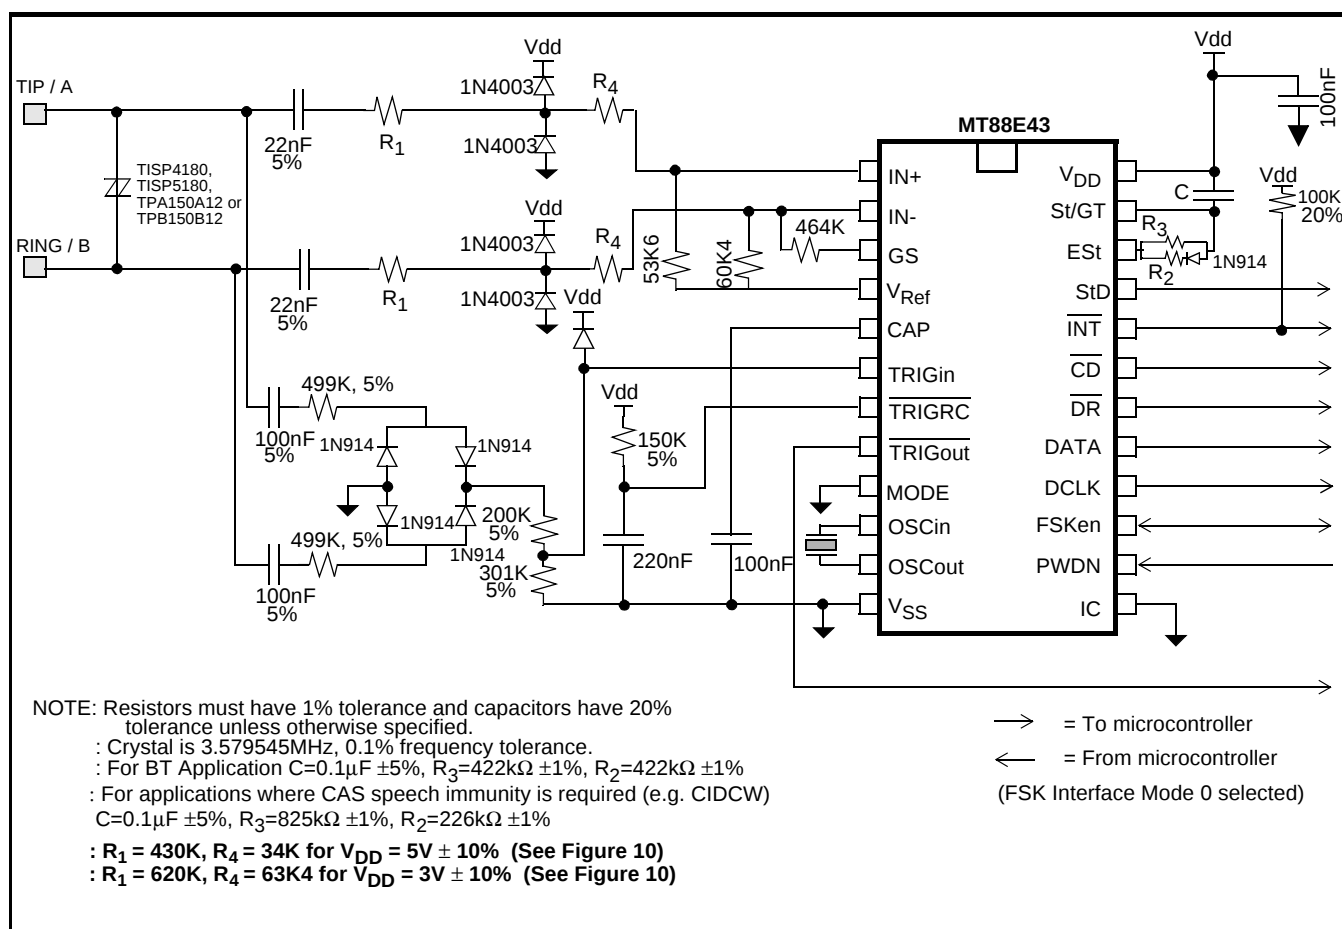
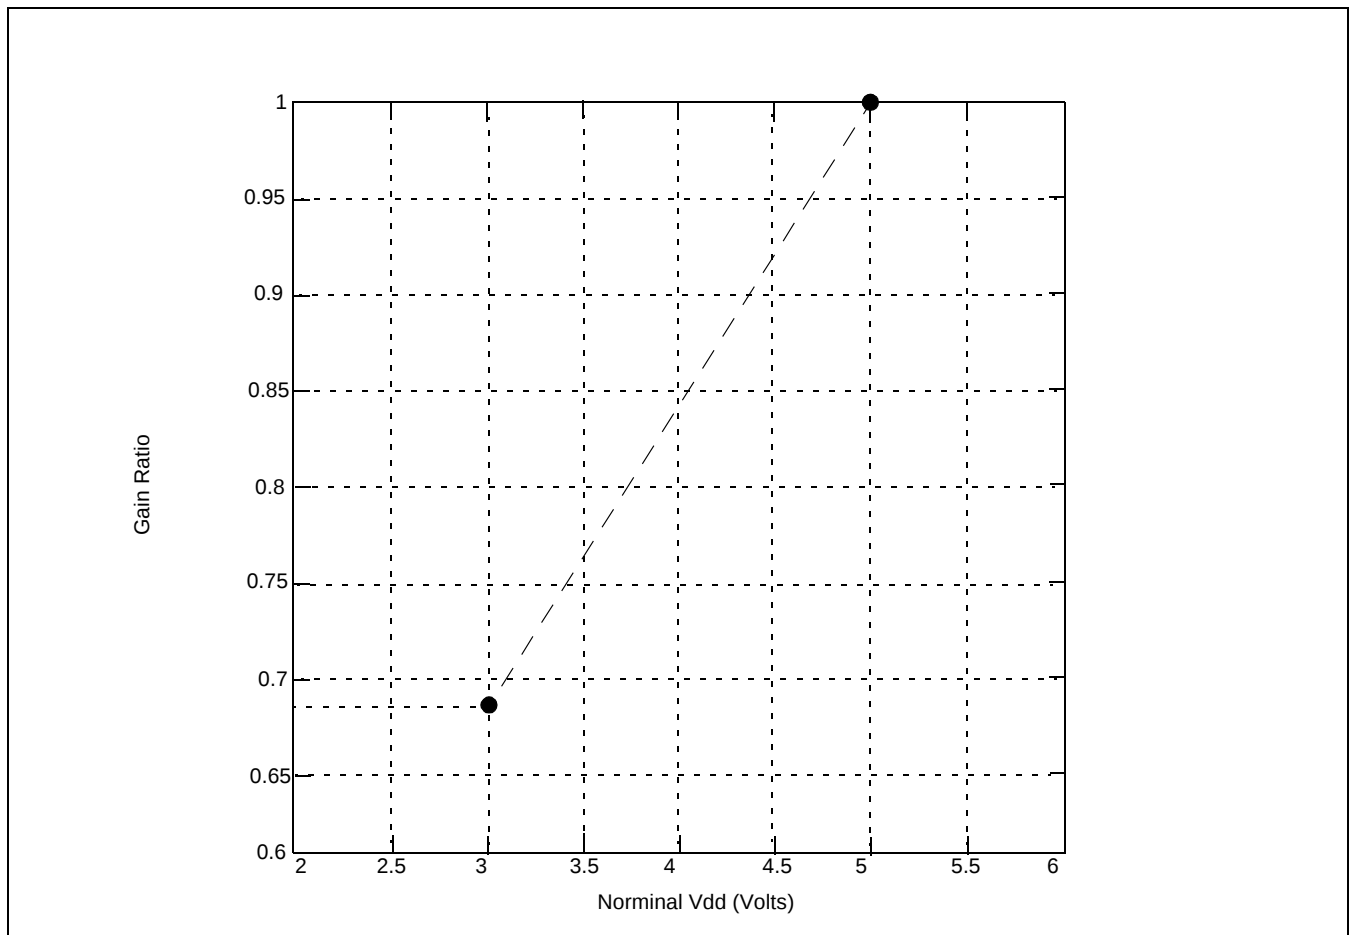

Figure 9 - Application Circuit
Figure 10: Gain Ratio as a function of Nominal Vdd
Figures 9 and 11 ($R_2 = R_3 = 422K$, $C = 0.1\mu F$) will meet the BT timing requirements.
The circuits shown in Figures 9 and 11 are application circuits for the MT88E43. As supply voltage (V_{DD}) is decreased, the threshold of the device's tone and FSK detectors will be reduced. Therefore, to meet the BT or Bellcore tone reject level requirements the gain of the internal opamp should be reduced according to the graph in Figure 10. For example when $V_{DD}=5V$ (+/- 10%), R_1 should equal 430k Ω and R_4 should equal 34k Ω ; and if $V_{DD}=3V$ (+/- 10%) R_1 should equal 620k Ω and R_4 should equal 63.4k Ω . Resistors R_1 and R_4 are shown in Figures 9 and 11.
The circuit shown in Figure 9 illustrates the use of the MT88E43 in a proprietary system that doesn't need to meet FCC, DOC, and UL approvals. It should be noted that if glitches on the tip/ring interface are of sufficient amplitude, the circuit will falsely detect these signals as ringing or line reversal.
Note: In the application circuits shown in Figures 9 and 11, the Gain Ratio of MT88E43 opamp is
3. With gain setting as shown in Figure 10. Production tested at 3V $\pm 10\%$, 5V $\pm 10\%$.